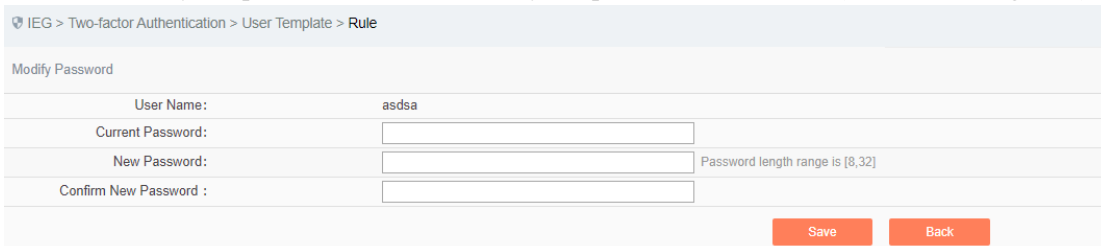

Fig.4-73 Modify Password Interface
5) To modify the password means to modify the password of this user (as shown in Fig.4-73):